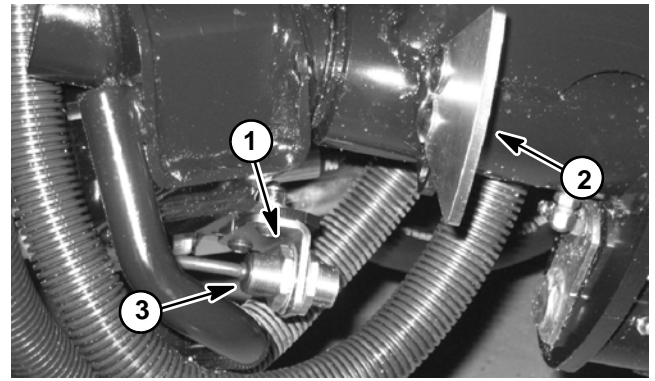

Figure 61
3. Turn ignition switch to the ON position (do not start engine) and check LED on cable end of position switches (Fig. 61). Switch LED **should be** illuminated when the cutting decks are fully lowered.